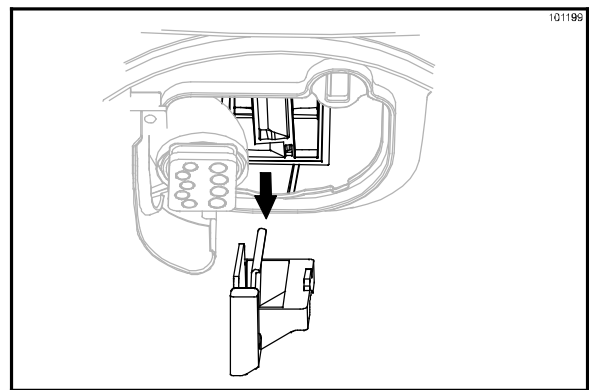

Figure 189
13. Remove the blade guard from the new blade. (See Figure 189.)